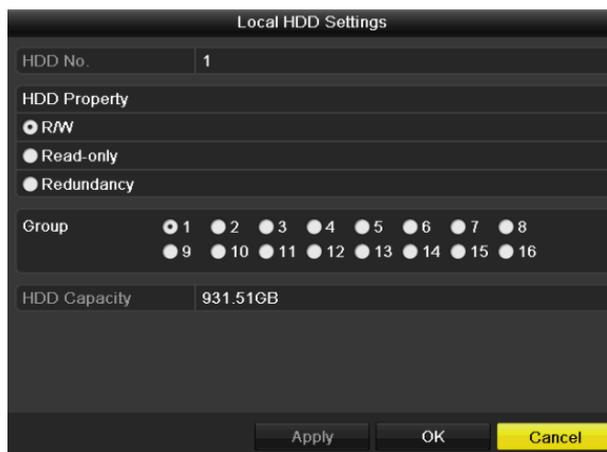

Figure 12-15 Set HDD Property
Step 2 Select HDD from the list and click the  icon to enter the **Local HDD Settings** interface, as shown in Figure 12-15.